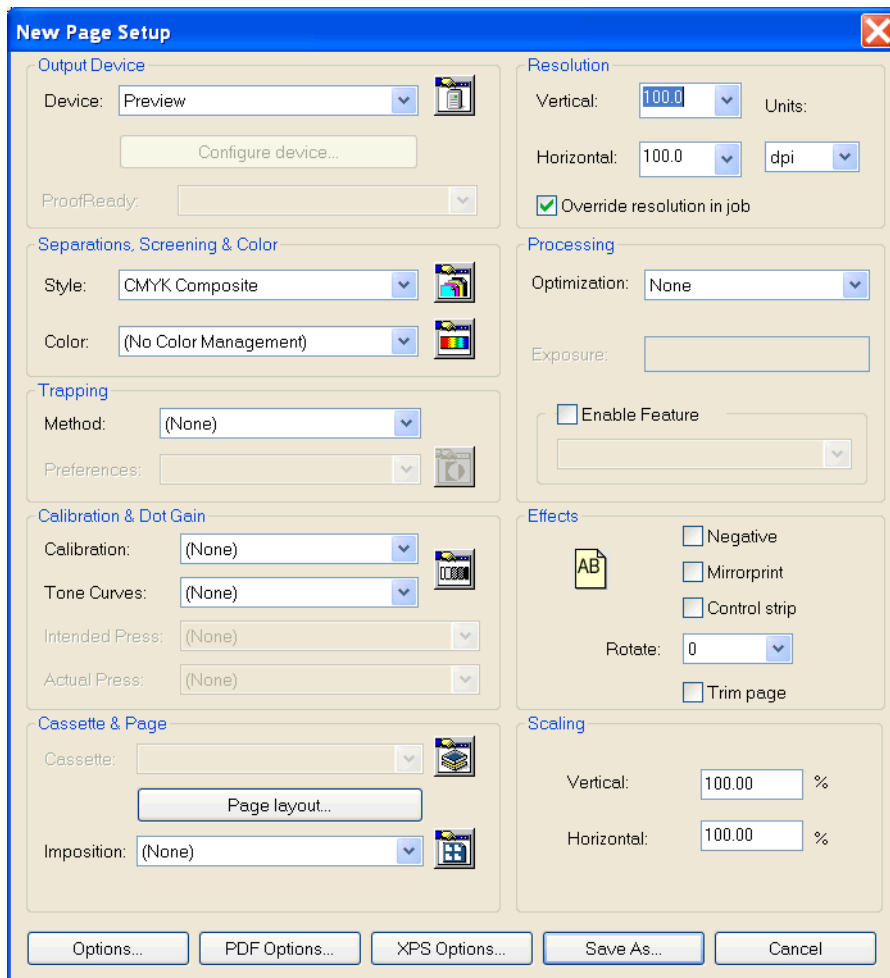

Figure 3.2 New Page Setup dialog box
3. In the Edit Page Setup dialog box, shown in Figure 3.2, set the **Device** to **None** and the **Vertical** and **Horizontal** resolutions to something small, say 72 dpi. If you change the **Device**, you must choose a separations style listed in the **Style** drop-down list and, for some devices, a cassette name from the **Cassette** drop-down list.
2. In the Page Setup Manager dialog box, select **Default Page Setup** and click **Copy** to display the New Page Setup dialog box. The New Page Setup dialog box is very similar to the Edit Page Setup dialog box, shown in Figure 3.2 on page 45.